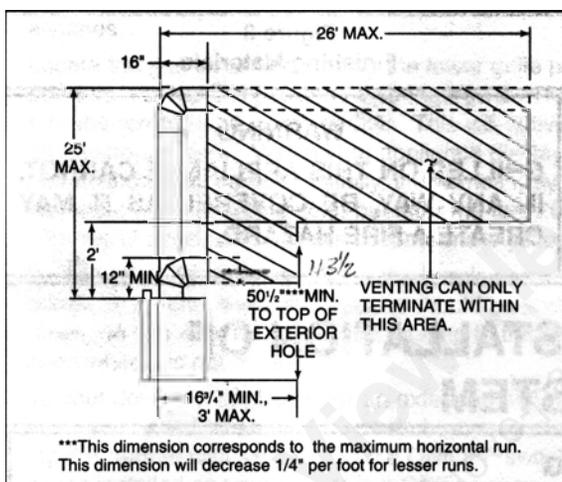

Figure 5
sides. These clearances must be maintained at all times. The maximum horizontal run allowed for venting is 26 feet. The maximum vertical rise allowed for horizontal termination is 25 feet. See Figure 5.
4. Venting through the wall. Horizontal venting must terminate within the shaded area shown in Figure 5. For example, if your vertical rise is the minimum one foot, venting can terminate anywhere between 16 inches and 3 feet.